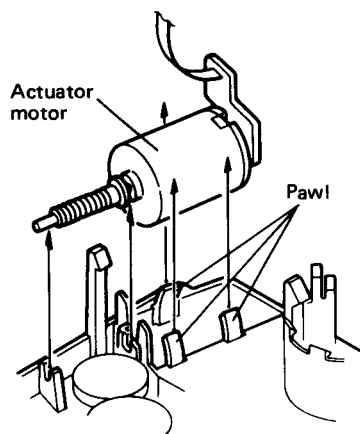
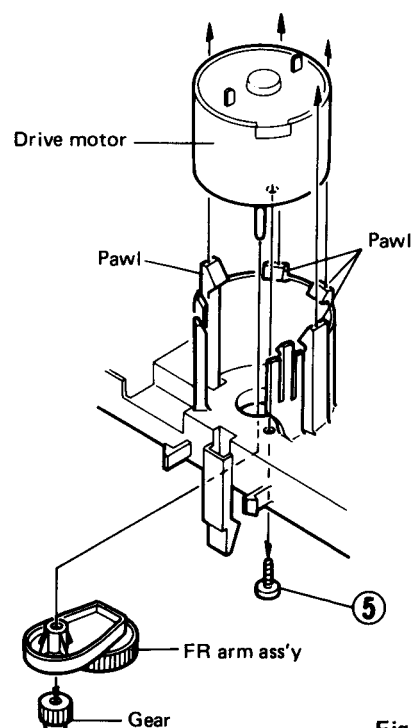

Fig. 2-13
Fig. 2-16
- **Actuator motor assembly** (Fig. 2-13)
- **Drive motor** (Fig. 2-13, Fig. 2-16)
- 2) Remove a screw ⑤ retaining the drive motor.